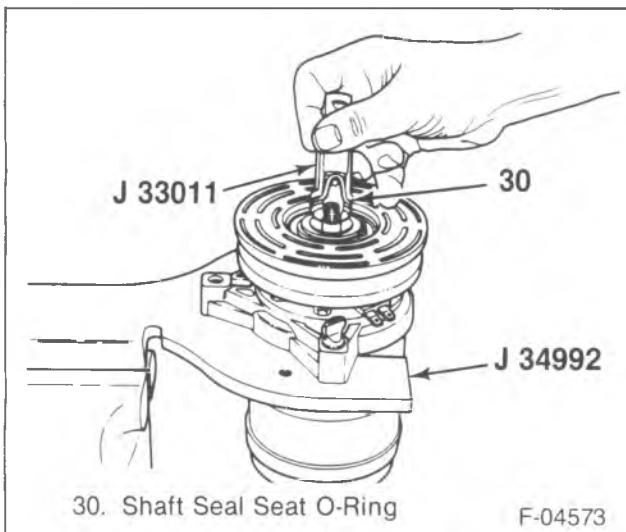

Figure 25—Installing the Shaft Seal Seat O-Ring
- 1. J 34614 onto the shaft (38).
- 2. O-ring seal using J 33011 (figure 25).